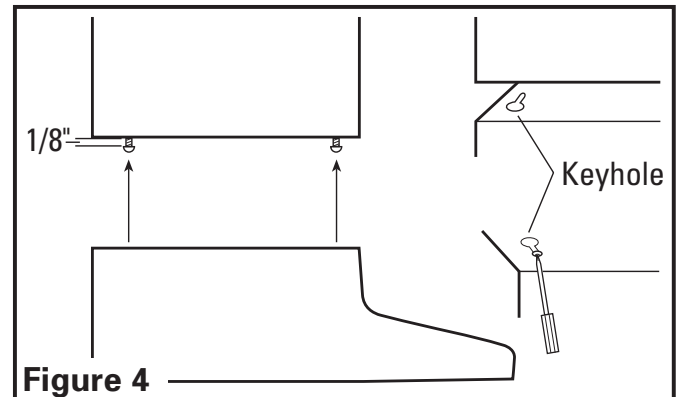

Figure 4
- Install the 4 mounting screw at the previously marked locations. Leave approximately 1/8" clearance. Slide the hood in place through the keyhole slots and align the front of the hood so that it is flush with the front of the cabinets. Tighten all screws securely (**Figure 4**).